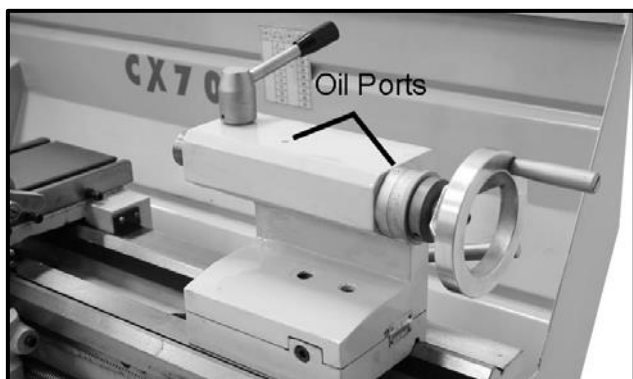

Figure-47 Tailstock oil ports
Lubricate the four oil ports (A) shown in figure-47 with 20W machine oil once daily.
Lubricate the two oil ports shown in figure-47 once daily.